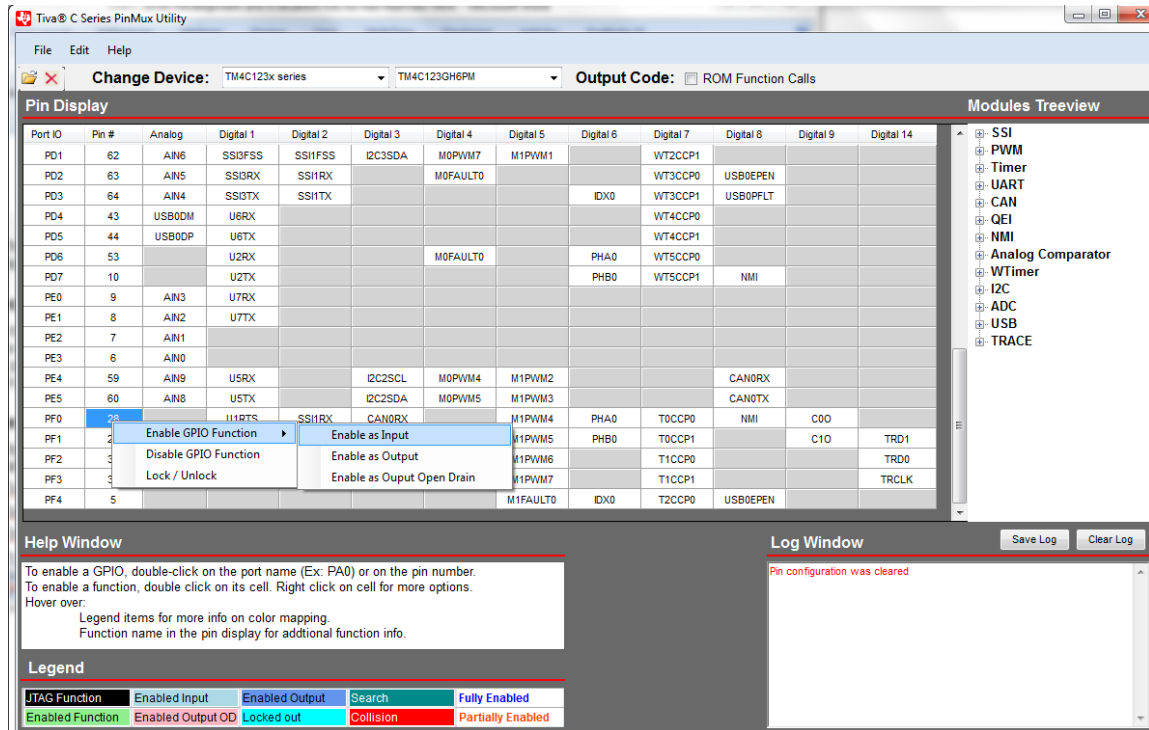
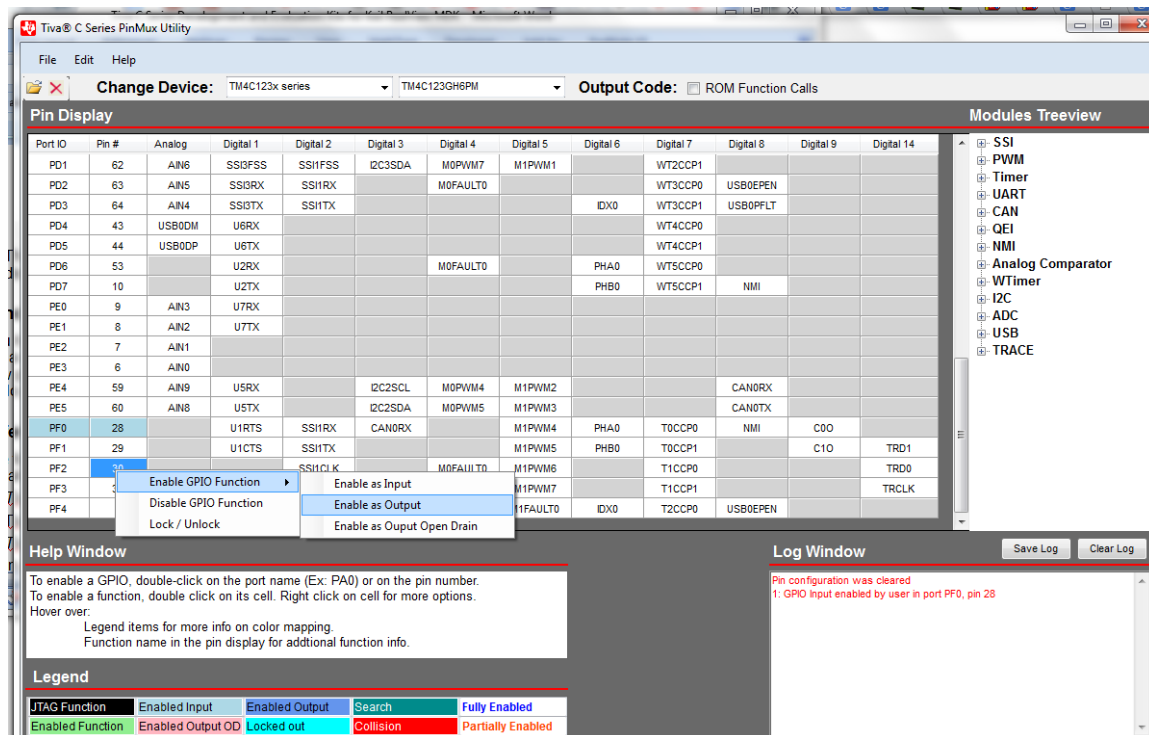

Figure 4
Figure 5
5. For the *switch_PinMux* project, we need to configure PF0 as a regular digital input port and PF2 as a regular digital output port. To configure PF0 as a GPIO input, scroll down the list of pins and find PF0, right-click the pin number '28', choose *Enable GPIO Function* in the drop down menu, and then *Enable as Input* in the sub drop-down menu (see Figure 4). To configure PF2, find PF2 in the list of pins, right-click the pin number '30', choose *Enable GPIO Function*, and then *Enable as Output* (see Figure 5).